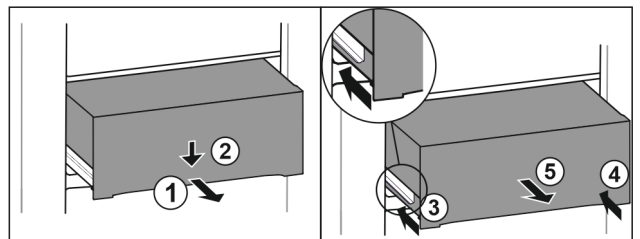

Fig. 92
- ▶ Pull out drawer half-way. Fig. 92 (1)
- ▶ Push the drawer down at the front. Fig. 92 (2)
- ▶ Push the left rail in by about 2 cm. Fig. 92 (3)
- ▶ Push the right rail in by about 2 cm. Fig. 92 (4)
- ▶ Remove drawer to the front. Fig. 92 (5)